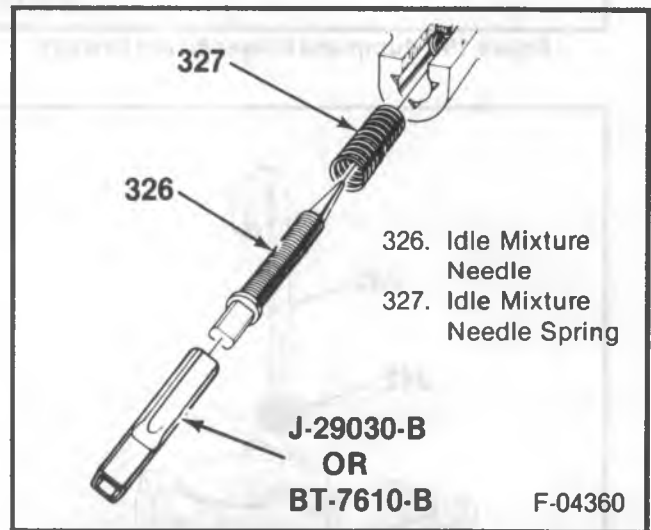

Figure 25 - Idle Mixture Needle and Spring
- ↔ Remove or Disconnect (Figure 25)
Inspect (Figure 25)